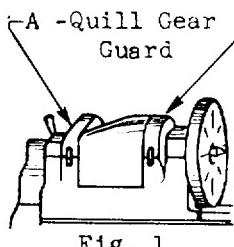

Fig. 1
1. Remove items A and B (Fig. 1).